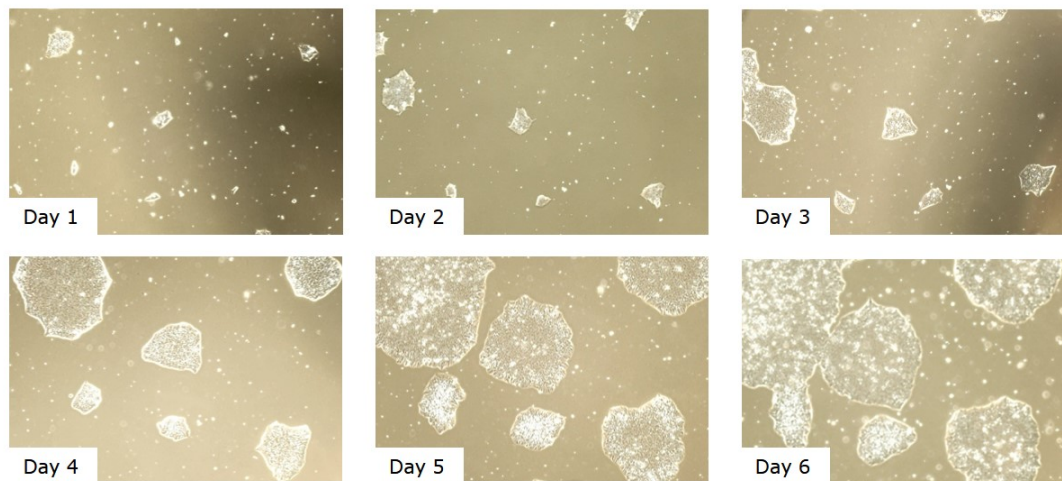
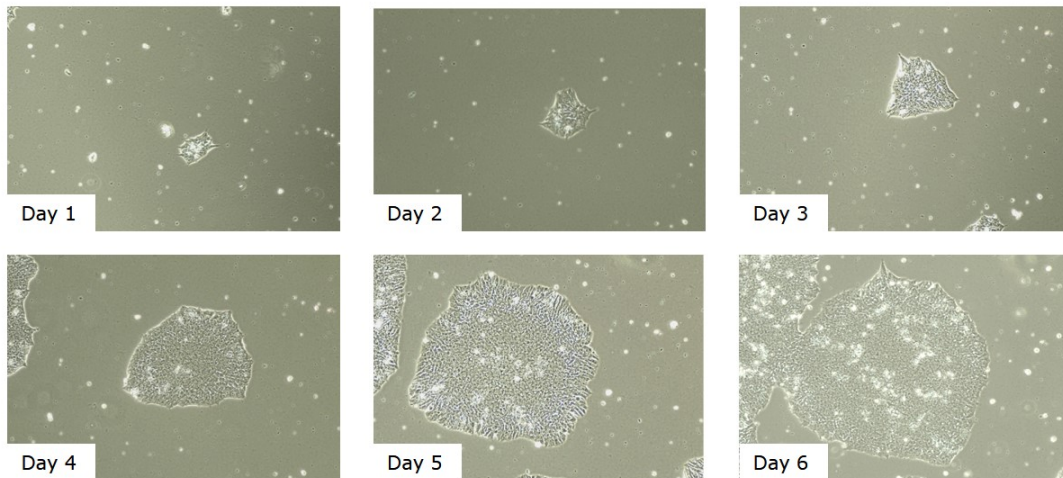
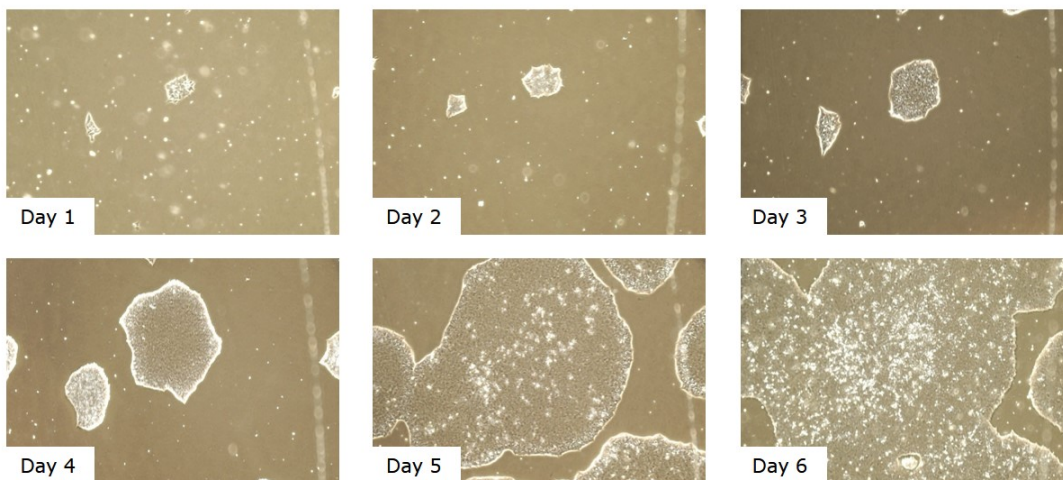
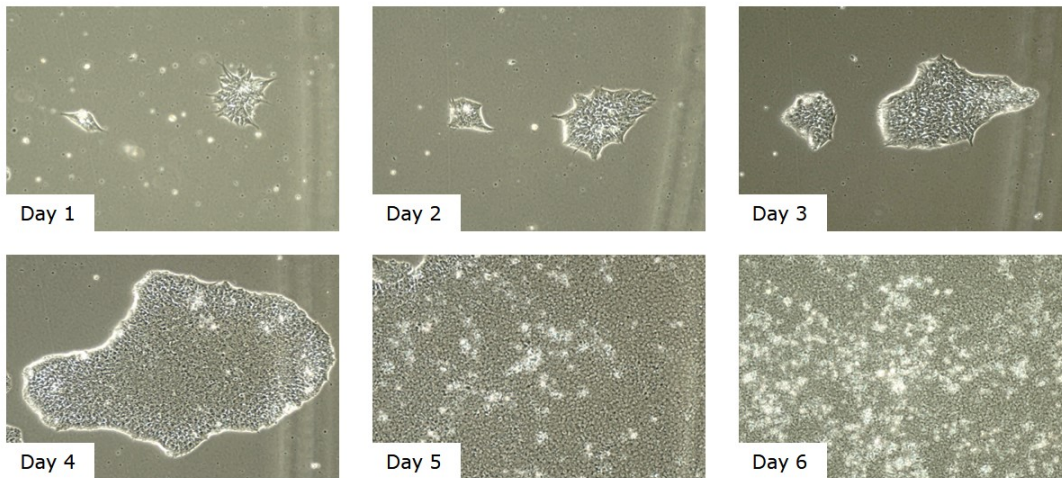

Figure 1. Bright-field phase contrast of NCRM1 cells in mTeSR1 media on days 1 to 6 after thaw/recovery (4X objective).
Figure 2. Bright-field phase contrast of NCRM1 cells in mTeSR1 media on days 1 to 6 after thaw/recovery (10X objective).
Figure 3. Bright-field phase contrast of NCRM1 cells in Essential 8 media on days 1 to 6 after thaw/recovery (4X objective).
Figure 4. Bright-field phase contrast of NCRM1 cells in Essential 8 media on days 1 to 6 after thaw/recovery (10X objective).
- Undifferentiated colonies are typically ready to be passaged about 5 to 7 days after thaw/recovery. Examples of iPSC cultures at days 1 to 6 after thaw/recovery are shown in mTeSR1 in Figure 1 and Figure 2 and for Essential 8 in Figure 3 and Figure 4.